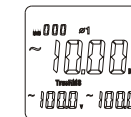

Figure 8-1
- As shown in Figure 8-1, please press SELECT key to select the 1st phase location of $\phi 1$ for three-phase four-wire system of load. It can display apparent power, voltage and current of phase location of $\phi 1$.